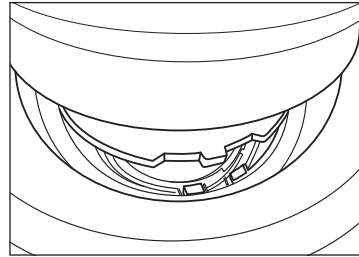

Figure 2
3. Now attach the bean hopper. Insert the bean hopper by aligning the notches on the base of the hopper with the guides on the inside of the collar. Position until the hopper sits flat. See figure 2.